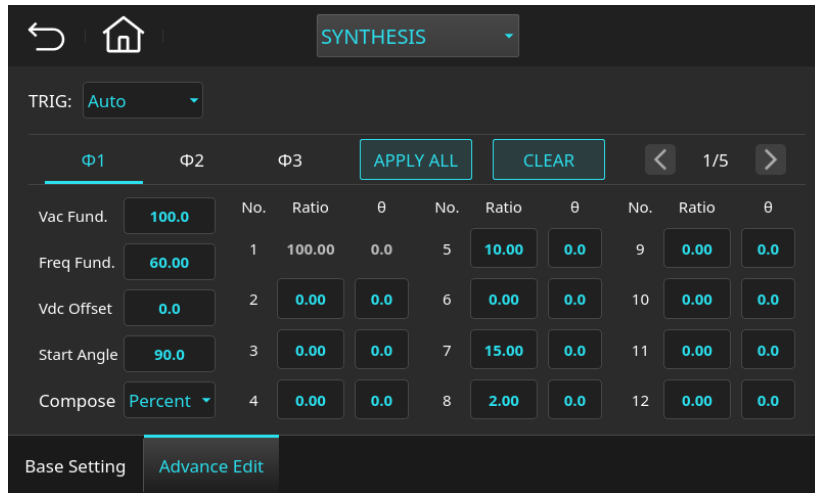

Figure 5-27 Synthesis Mode Setting Page (Example Parameters for Phase 1)
2. Tap the Compose dropdown menu **Voltage** on the screen and select "Percent". Edit the parameters as shown in Figure 5-27.